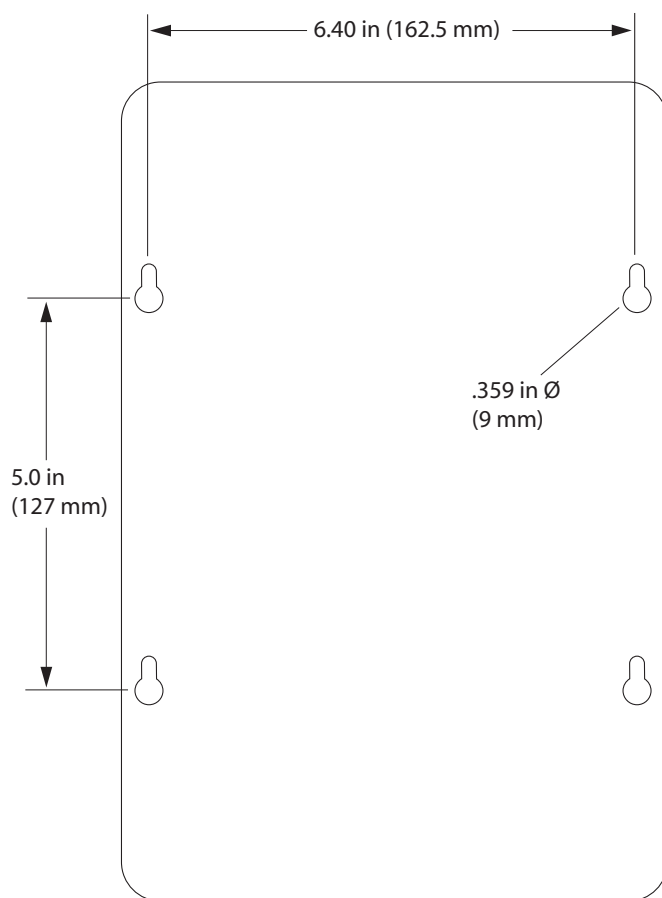

Figure 8–MP9320 V2.8 Base Plate with Mounting Keyholes
SAMSys recommends that the MP9320 V2.8 be mounted on a horizontal surface. However, if vertical surface installation is required, refer to the following sections for the appropriate mounting. As shown in Figure 8, keyhole slots are provided for easy installation and removal.
1. Refer to Figure 8, and mark the location of the mounting screws. Do not install the anchors into the mortar joint.
1. Refer to Figure 8, and mark the location of the mounting screws.